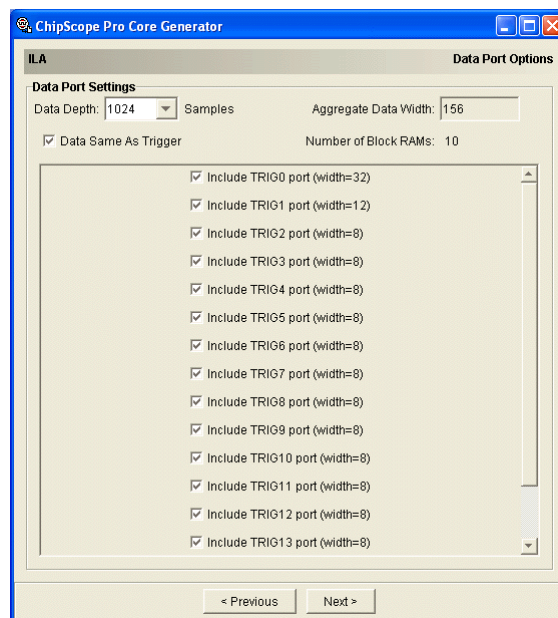

Figure 2-10: ILA Core Data Same As Trigger Options
- **Data Same as Trigger (Figure 2-10, page 2-14)**